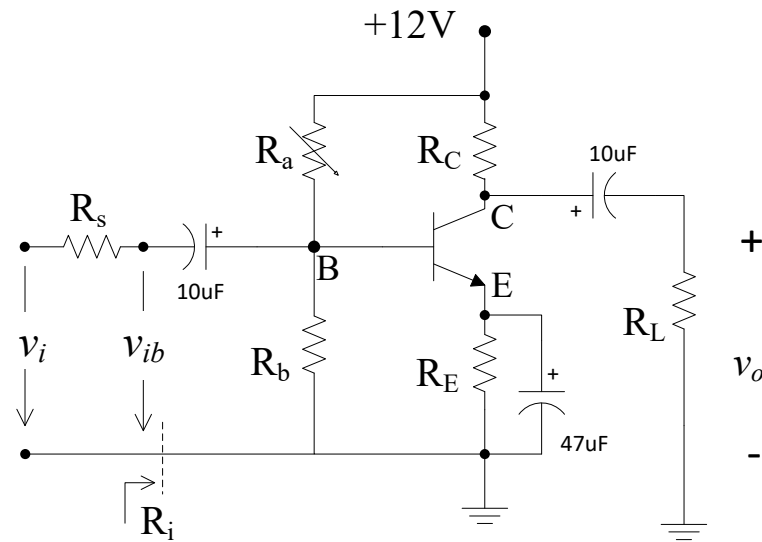

Figure 6.1: A common-emitter amplifier.
In Fig. 6.1, assuming  $V_{BEQ} = 0.65\text{V}$ ,  $\beta = 160$ ,  $R_s = 2.0\text{k}\Omega$ ,  $R_a = 56\text{k}\Omega$ ,  $R_b = 27\text{k}\Omega$ ,  $R_C = 1.0\text{k}\Omega$ ,  $R_E = 1.5\text{k}\Omega$ , (45k, 25k, 1k, 1k)
- Construct the circuit in Fig. 6.1 using a npn BJT (2N3904) and  $R_L = \infty$